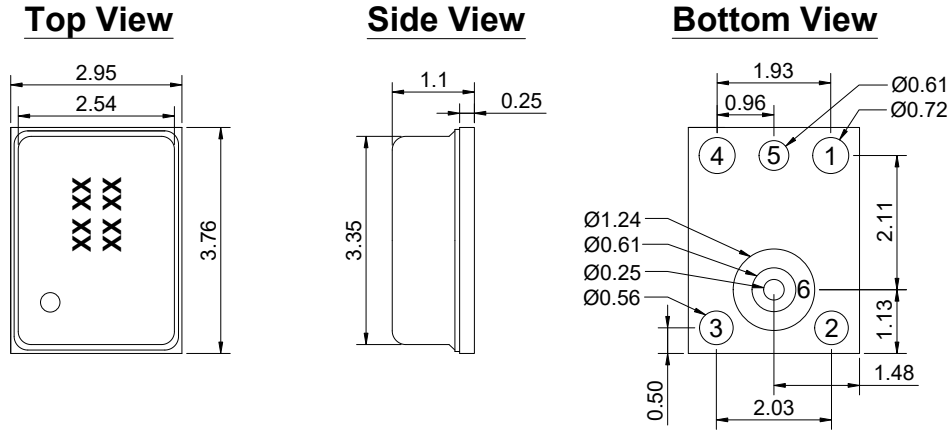

Figure 8. Mechanical Layout of SMO04C-38/1316
- 6.3.1. Layout and Dimension : See Section 9, Figure 8